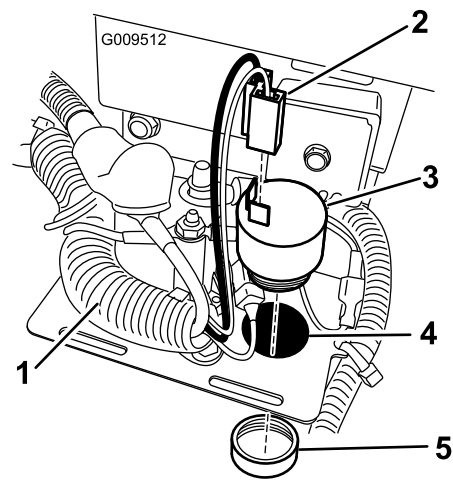

Figure 4
3. Locate the round hole in the control mount plate and the main vehicle harness (Figure 4).
4. Install the alarm into the hole as shown in Figure 4. If necessary, move the harness to allow the installation of the alarm.
5. Use the retaining ring to secure the alarm to the control mount plate (Figure 4).
6. On the main wiring harness, locate the terminating end that has a right angle plug orientation. This connector should be secured to the main harness with a plastic tie (Figure 4). Remove the tie on the connector to reach the alarm.
7. Connect the alarm to the vehicle's main wiring harness (Figure 4).